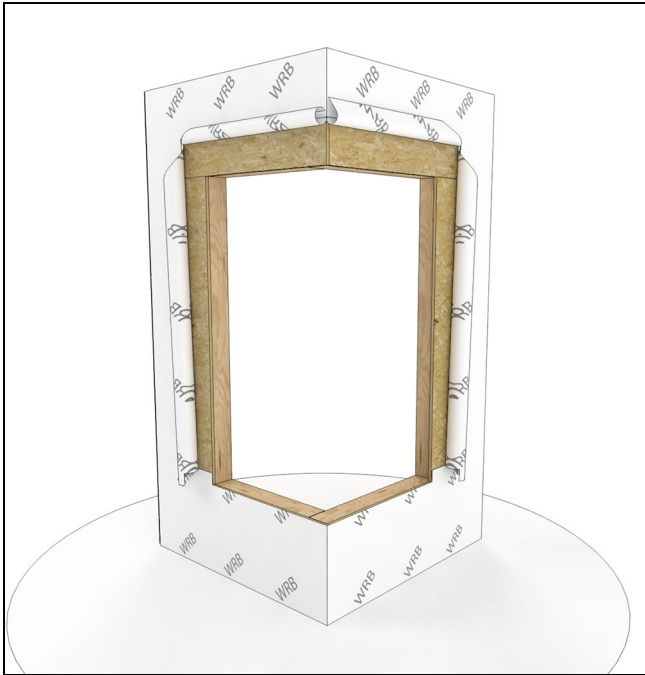

Figure 10
9. Tack the side jamb air barrier away from the opening temporarily. See Figure 10.